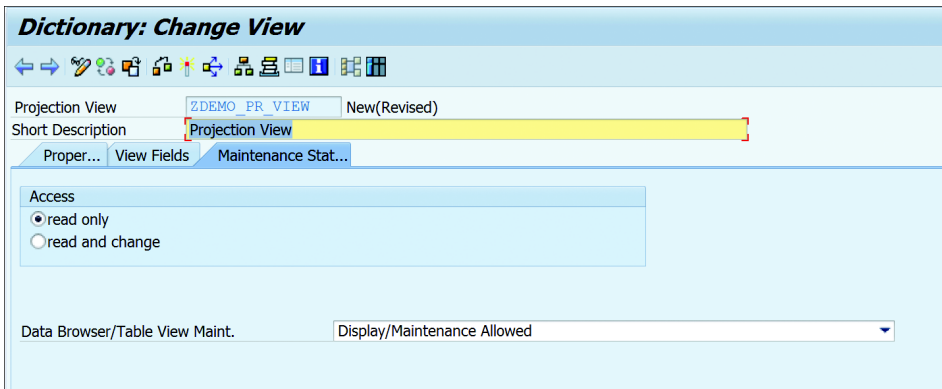

Figure 10.41 Maintenance Status
- Under the MAINTENANCE STATUS tab, select the ACCESS type as either READ ONLY or READ AND CHANGE, as shown in Figure 10.41.